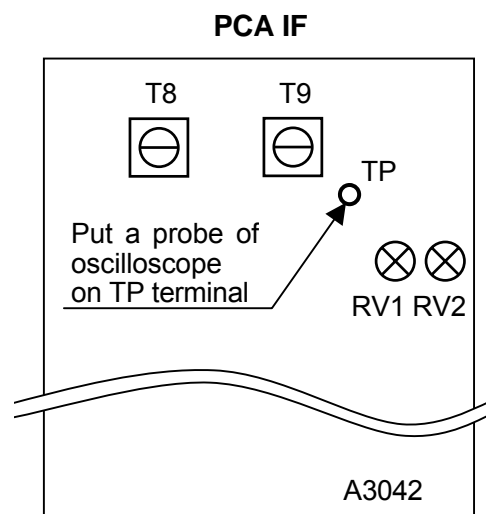

Fig. 15
- (3) Put a probe of oscilloscope on TP terminal of PCA IF/AF to check if the modulation wave is good. PCA IF is installed on the tail side of PCA CPU in the main unit. (Refer to Fig.15)